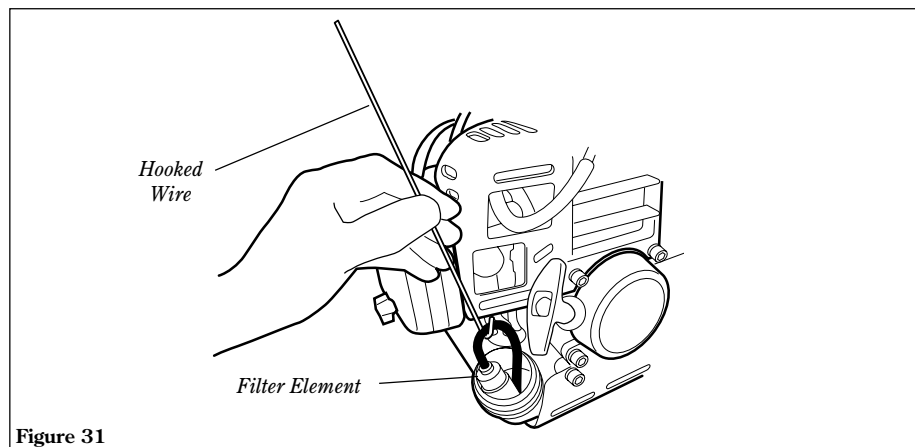

Figure 31
- Use a hooked wire to extract the fuel filter from inside the fuel tank. See Figure 31.